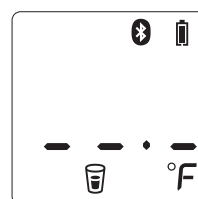

Figure 4
1. Press the *Test Button* to turn on the thermometer, press the *Mode Button* to switch to object mode, you can take the object temperature after hearing beep.(see figure 4)